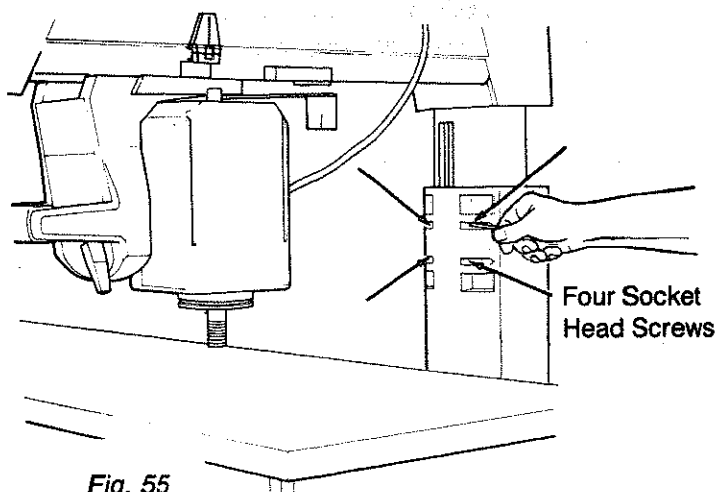

Fig. 55
11. Use a 3/16" hex "L" wrench to loosen the four screws in the front of the *column support* slightly, if you have not already done so in the *Adjusting Elevation* section. (Figure 55)